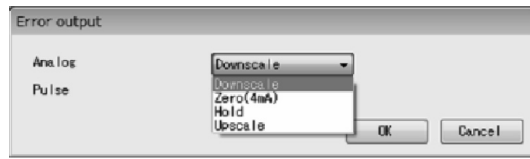
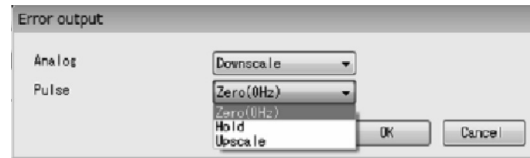

Fig.50
Fig.51
- ③ Select the output levels to set from the drop-down lists by clicking the triangles on the right side of the "Analog" and "Pulse" items, as shown in Fig. 50 and Fig. 51.